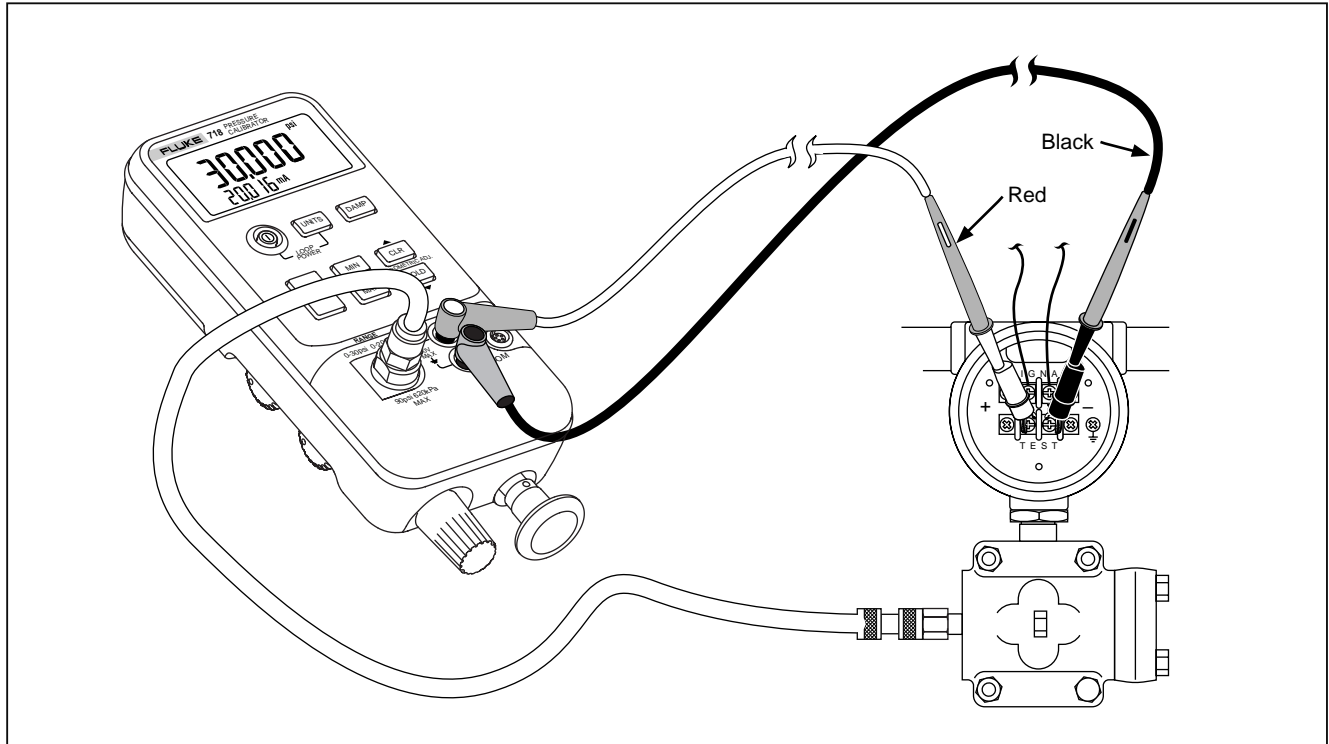
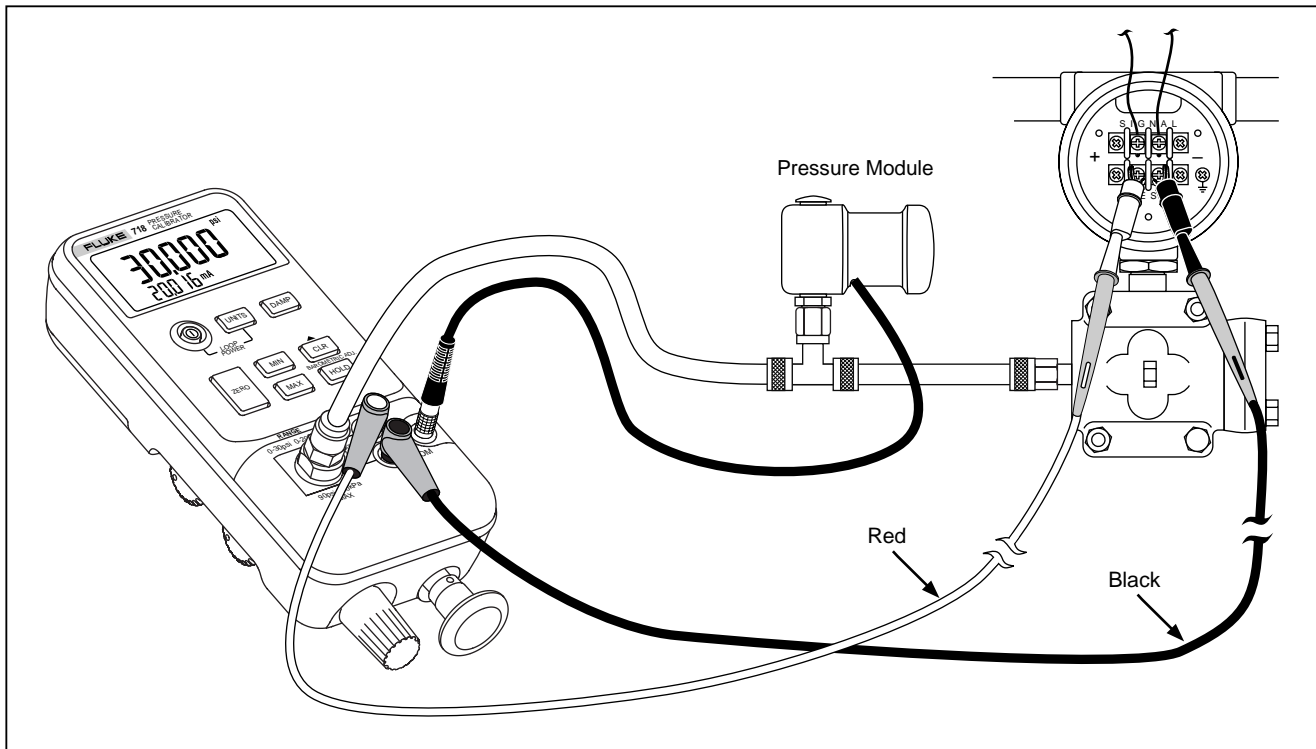

Figure 4. Internal Pressure Sensor with Internal Pump
Figure 5. Pressure Module with Internal Pump
The preferred use for the internal pump is shown in Figure 4, where the calibrator displays pressure measured with the internal sensor and provided by the internal pump.
calibrator model are identified in Table . Figure 5 shows the internal pump being used with a pressure module.
2. Connect the pressure transmitter to the calibrator internal sensor as shown in Figure 4 (for internal pressure sensor measurements) or Figure 5 (for pressure module measurements.)